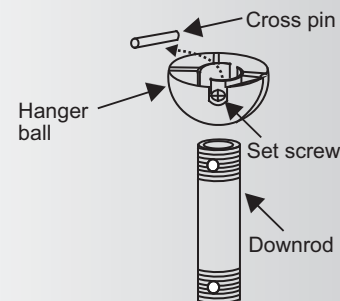

Fig. 7
Step 5. Remove the hanger ball from the downrod assembly by loosening the set screw, unscrewing and removing removing the cross pin and unscrewing the ball off the rod. (Fig.7)